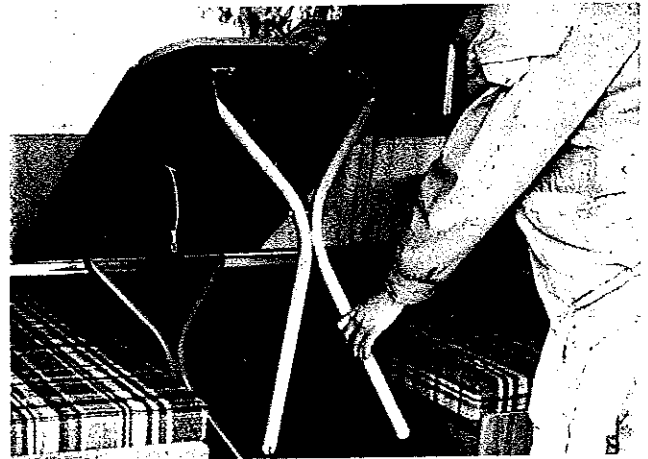

FIGURE 43
2. Extend the table legs completely so that both leg supports lock into position. Set table upright and check to insure it is stable. See Figure 43.
10. Lift the dinette table up on end. Apply inward pressure to the leg support locks and lower and secure legs by attaching the elastic cord over both dinette legs. See Figure 43.